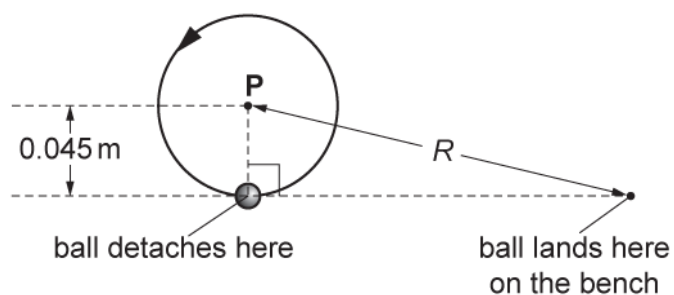

Fig. 6.3
- (c) Whilst rotating in the horizontal plane the ball suddenly becomes detached from the string. The bottom of the ball is 0.18 m above the bench at this instant. The ball falls as a projectile towards the bench beneath. Fig. 6.3 shows the view from above.